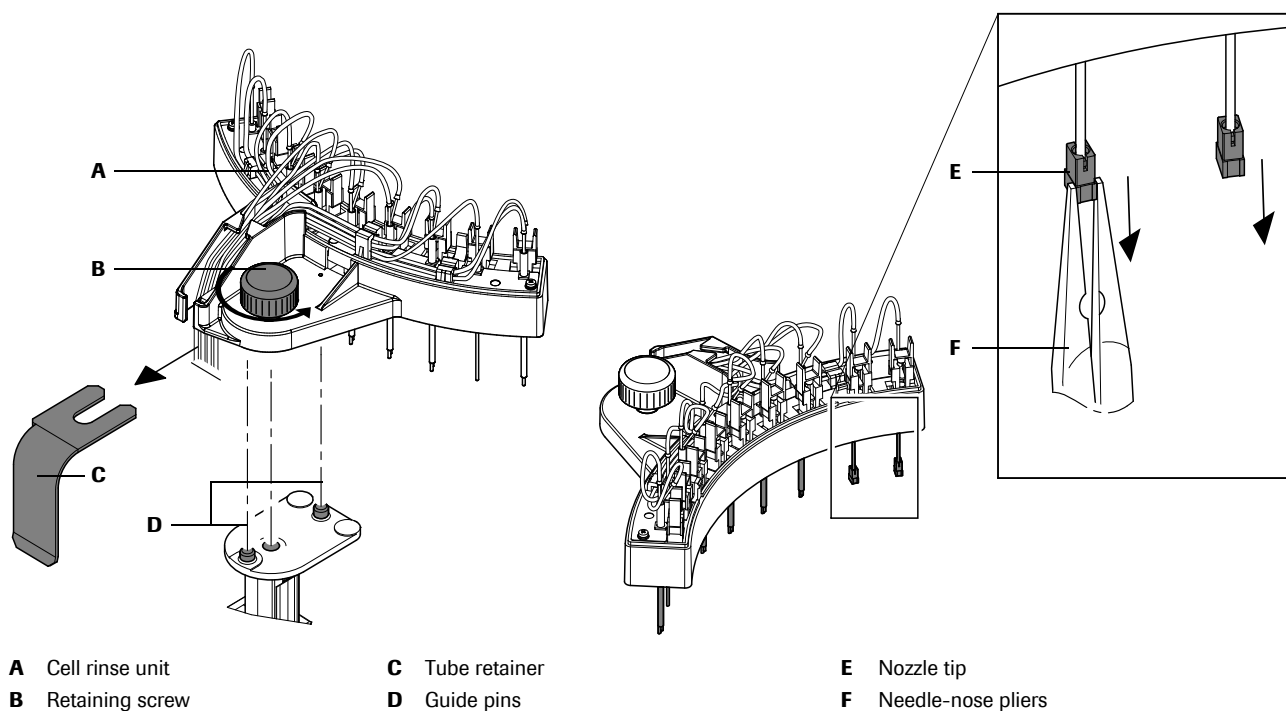

**Figure C-43** Dismount the cell rinse unit and replace the nozzle tips
- 6 Align the pin holes of the cell rinse unit with the guide pins (**D**, Figure C-43) and attach the rinse unit.
- 7 Fix the tube retainer (**C**, Figure C-43) below the screw and then mount the unit.